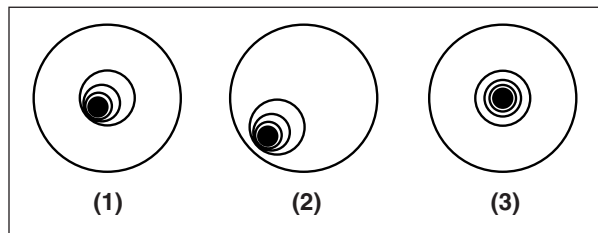

Fig. 24a: Defocused star images.
- b. While looking at the defocused star image, notice which direction the darker shadow is offset in the ring of light or notice which part of the ring is the thinnest (**Page 44, Fig. 24a, 1**). Place your index finger in front of the telescope so that it touches one of the collimation set screws. You will see the shadow of your finger in the ring of light. Move your finger around the edge of the black plastic secondary mirror support until you see the shadow of the finger crossing the thinnest part of the ring of light. At this point, look at the front of the telescope where your finger is aiming. It will either be pointing directly at a set screw, or it will be between two set screws aiming at the set screw on the far side of the black plastic secondary mirror support. This is the set screw that you will adjust.
- c. Using the Arrow keys at the slowest slew speed, move the defocused image to the edge of the eyepiece field of view (**Page 44, Fig. 24a, 2**), in the same direction as the darker shadow is offset in the ring of light.
- f. When you bring the image to center (**Page 44, Fig. 24a, 3**), carefully examine the evenness of the ring of light (concentricity). If you find that the dark center is still off in the same direction, continue to make the adjustment in the original turning direction. If it is now off in the opposite direction, you have turned too far and you need to turn in the opposite direction. Always double check the image in the center of the field of the eyepiece.